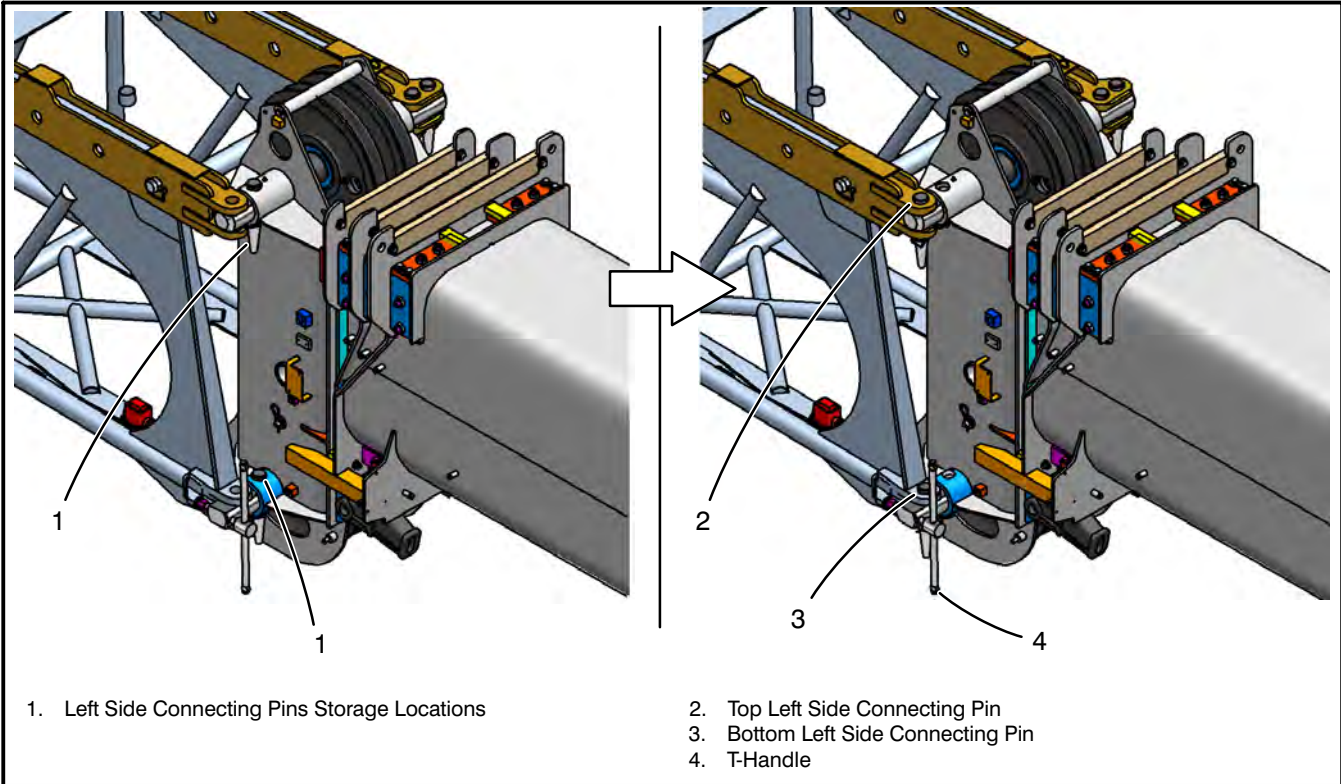

Figure 4-78
15. Remove the two fly connecting pins from the storage location (1) on the boom head machinery cross shafts on the left side of the boom. Refer to Figure 4-78. Install one pin through the top fly lug (2) on the left side of the boom. Turn the t-handle (4) to push and align the bottom left fly lug and the bottom boom head machinery cross shaft. Install the bottom left fly connecting pin (3). (Install the pins with the head on top and the keeper on the bottom.) Install the pin keepers. Back off the t-handle until at least a 1/2 in (1.3cm) clearance from the fly lug is obtained.